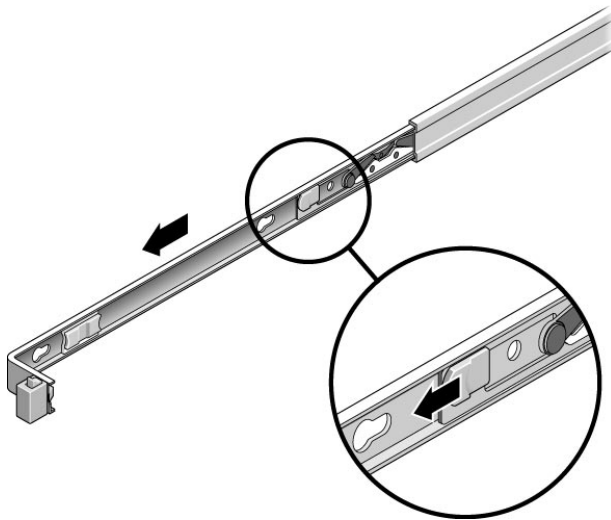

FIGURE 4-2 Location of the Mounting Bracket Release Buttons
6. Press the gray release tab on both mounting brackets to release the right and left mounting brackets, then pull the server chassis out of the rails (FIGURE 4-2). The mounting brackets slide approximately 4 in. (10 cm) farther before disengaging.